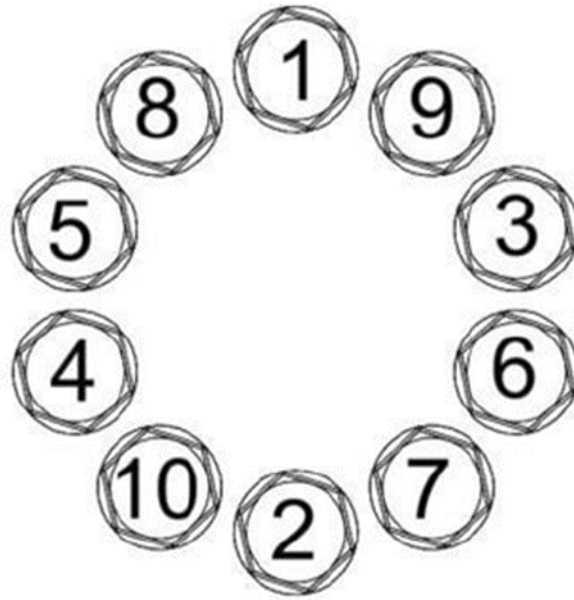

Figure 132.
13. Tighten the bolts in three steps in the following sequence (Figure 132):